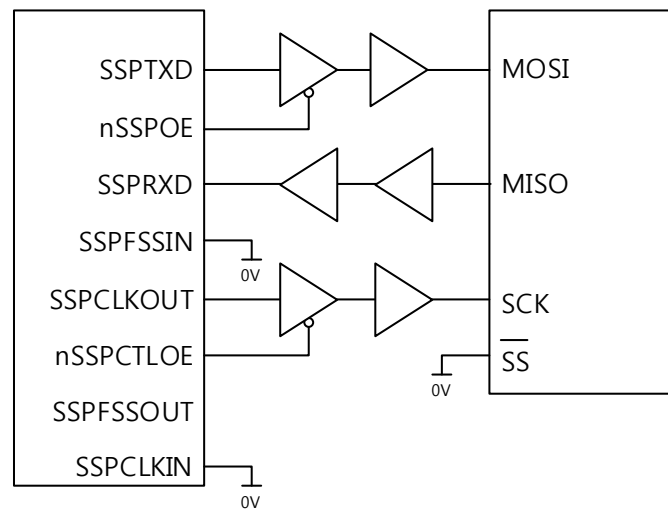

Figure 68. PrimeCell SSP master coupled to an SPI slave
Figure 68 shows how a PrimeCell SSP (PL022) configured as master, interfaces to a Motorola SPI slave. The SPI Slave Select (SS) signal is permanently tied LOW and configures it as a slave. Similar to the above operation, the master can broadcast to the slave through the master PrimeCell SSP SSPTXD line. In response, the slave drives its SPI MISO port onto the SSPRXD line of the master.